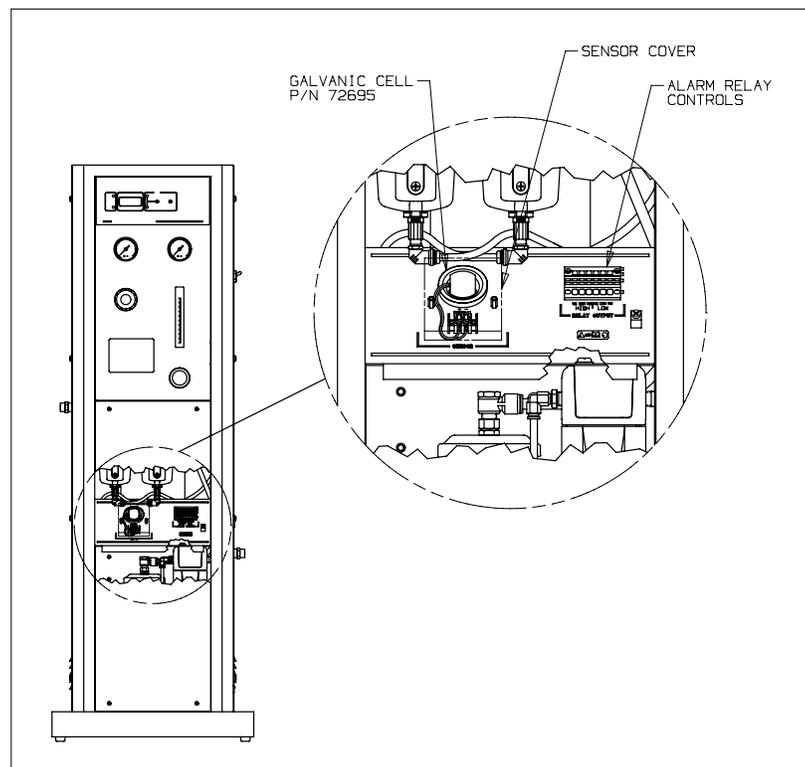

Figure 6 - Front View, Service Panel Removed
- 1 Remove filter access panel and sensor cover to expose galvanic cell holder (see Figure 6).
The oxygen analyzer also includes high and low alarm relay contacts located inside the service panel. The oxygen analyzer, through the use of the alarm relay contacts, may be used to control the process stream (see Figure 6). For example, a high or low oxygen concentration could signal a remote alarm, open a backup supply of the process stream, or close the process down for protection of downstream equipment or processes. The alarm relay contacts should be wired by a qualified electrician. Both the high and low oxygen alarm conditions are provided with three relay outputs: a common (C), a normally open (NO), and normally closed (NC).